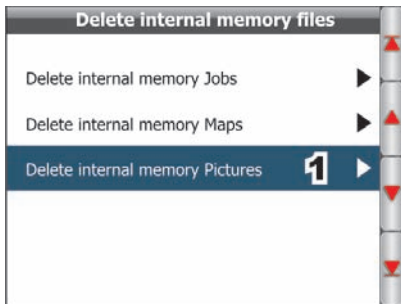

Fig. 156
- 1 Select item **Delete internal memory Pictures** (Fig. 156) and press **OK**;